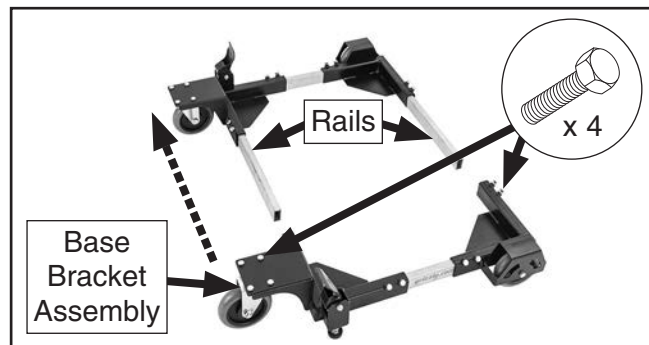

Figure 3. Model T33447 frame separated.
1. Loosen (4) hex bolts (see **Figure 3**) to separate T33447 Mobile Base bracket assembly from side rails. This should include one front corner bracket and one rear corner bracket